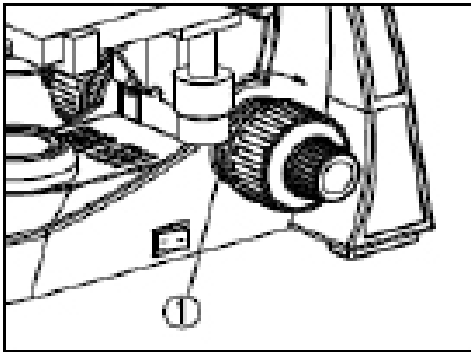

Fig. 11
1. Rotate the tension adjustment ring (1) according to the arrow direction in figure 11 to tighten the focus tension; rotate the tension adjustment ring in the opposite direction to loosen the tension.